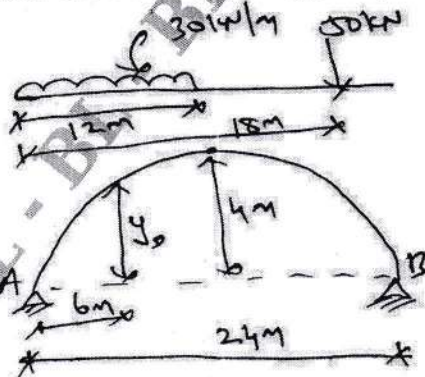

Fig.Q10
- 10 A three hinged parabolic arch hinged at the supports and at the crown has a span of 24m and a central rise of 4m. It carries a concentrated load of 50 kN at 18m from left support and uniformly distributed load of 30 kN/m over the left half portion. Determine the moment, thrust and radial shear at a section 6m from the left support. [Refer Fig.Q10]